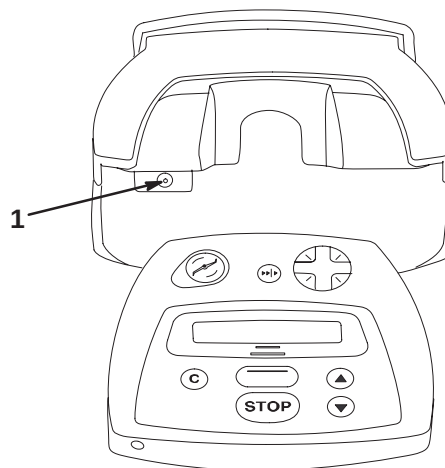

Figure 24
3. Plug the charger into the charging socket under the controller drawer (Fig. 24).